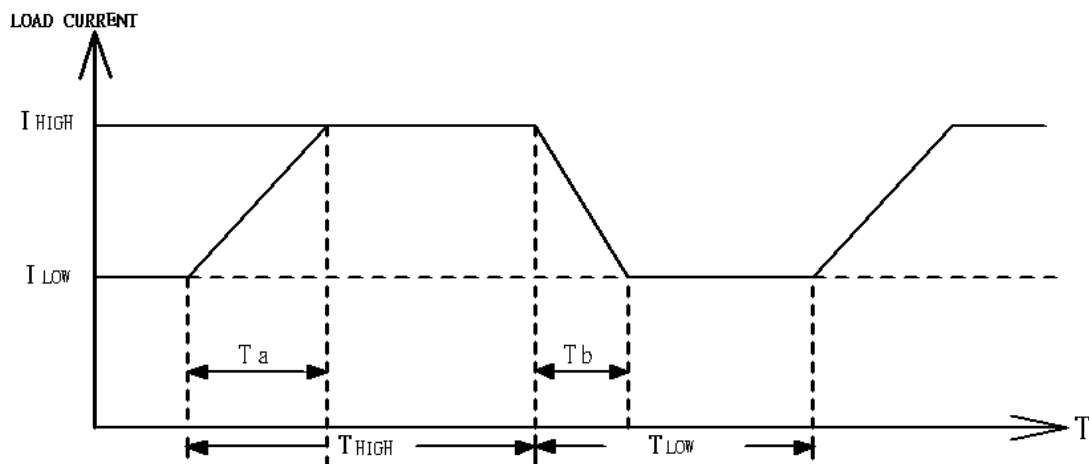

Fig 5-4 Dynamic load current with independent programmed Rise/Fall slew rate
5.3.2.1 Built-in Pulse generator: (Fig 5-4)
5.3.2.2 Analog programming input: (Fig 5-4) (Please use the CC Mode Range II)